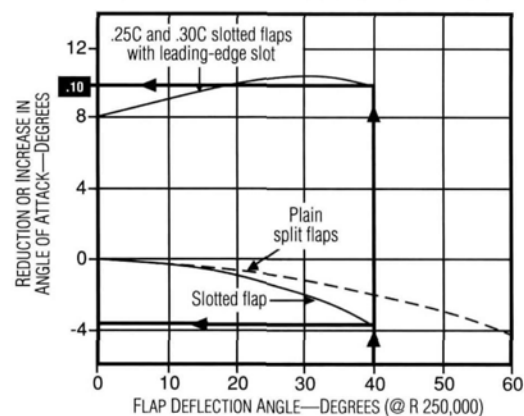

Figure 12. The effect on flaps and leading-edge slots on the angle at maximum lift.
- **High-lift devices**. As Figure 12 shows, slotted flaps extended 40 degrees would cause a further reduction of 4 degrees to 9.5 degrees stall angle. Had the slotted flaps been combined with fixed leading-edge (LE) slots, there would be a gain of 9 degrees, to 22.5 degrees stall angle.